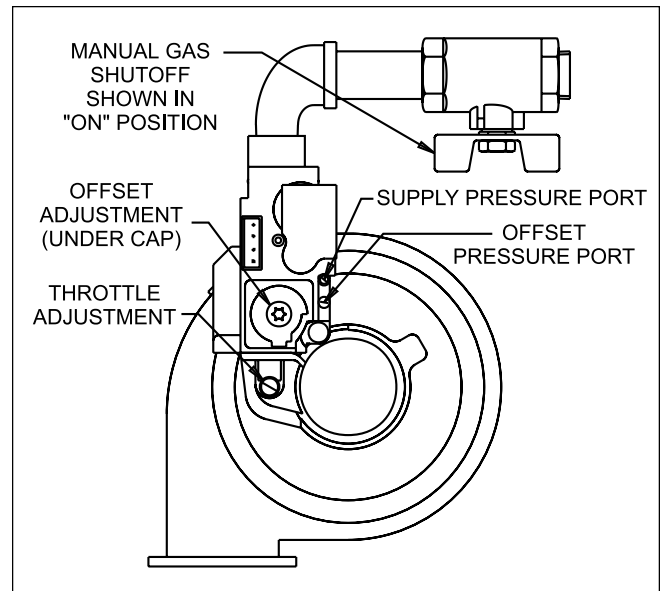

Figure 20. Gas Valve and Venturi Adjustment Points.
7. After the appliance starts, remove the front cover (if necessary). Remove the 1/8" NPT plastic plug from the flue pipe and insert your CO₂ or O₂ analyzer probe. Obtain the CO₂ or O₂ reading and compare it to the value in Table 4. Adjust the reading to match that value. To decrease CO₂ or increase O₂ turn the venturi throttle adjusting screw clockwise (see Figure 20 for identification of adjustment points.) To increase CO₂ or decrease O₂, turn counter-clockwise. NOTE: if adjusting procedure does not respond as described, turn the adjusting screw clockwise until the CO₂ values start to decrease (they will initially increase to 11.9% for natural gas or 13.8% for LP gas, and then respond as described above.) (If adjusting with an O₂ analyzer disregard this note and turn screw in either direction until the correct setting is obtained.) After the CO₂ or O₂ has been adjusted to the proper value, proceed to step 8.
CO₂ or O₂ sampling may be taken at the exhaust terminal or at the sample port on the 3" exhaust located inside the front cover. If the CO₂ or O₂ is out of specification, the throttle adjustment should be checked. The most effective method of checking is by clocking the gas meter. Improper throttle adjustment resulting in low input and low CO₂ (or high O₂) can be corrected by turning the throttle adjustment screw counter clockwise. Turn clockwise to decrease input and CO₂ (or increase O₂). See Figure 20 for the location of the offset pressure port and the offset and throttle pressure adjustment. After the throttle adjustment has been completed and the input and CO₂ or O₂ are properly set, the offset pressure should be set to the values shown in Table 4.